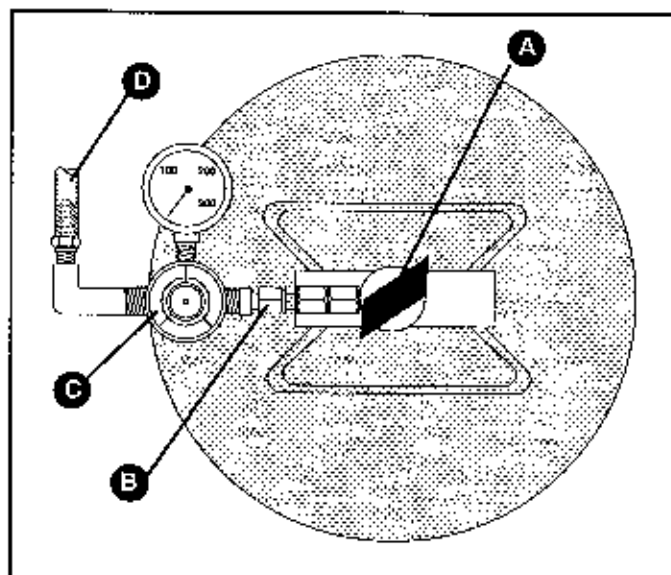

Figure 6-1
1. Turn the knob on the gas bottle valve clockwise to close the valve (see Figure 6-1).